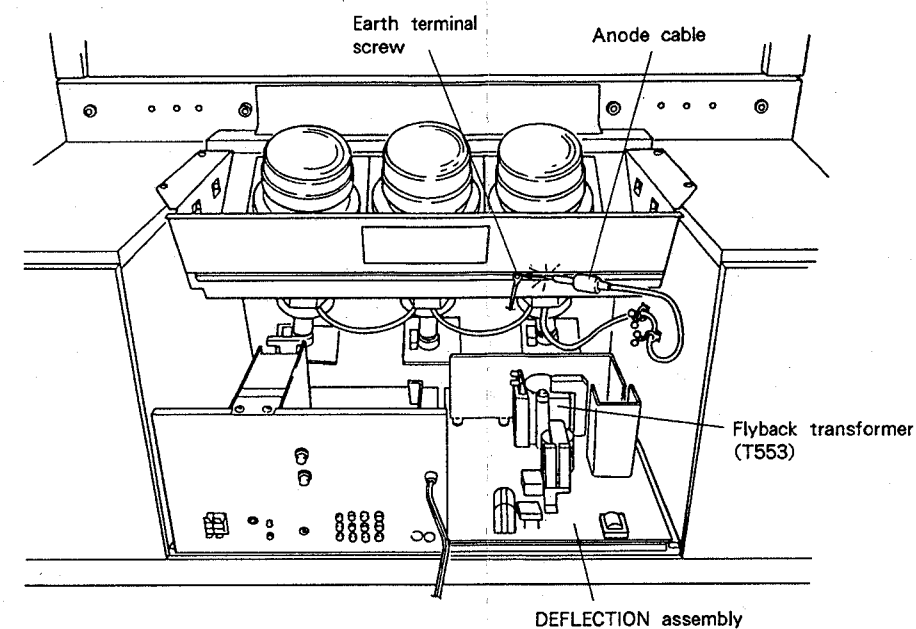

Fig. 4-2 Discharge of anode voltage (2)
5. Remove the anode cable from the flyback transformer (T553) as shown in Fig. 4-2. Be careful not to touch your hand or a part of your body to the tip of the anode cable.